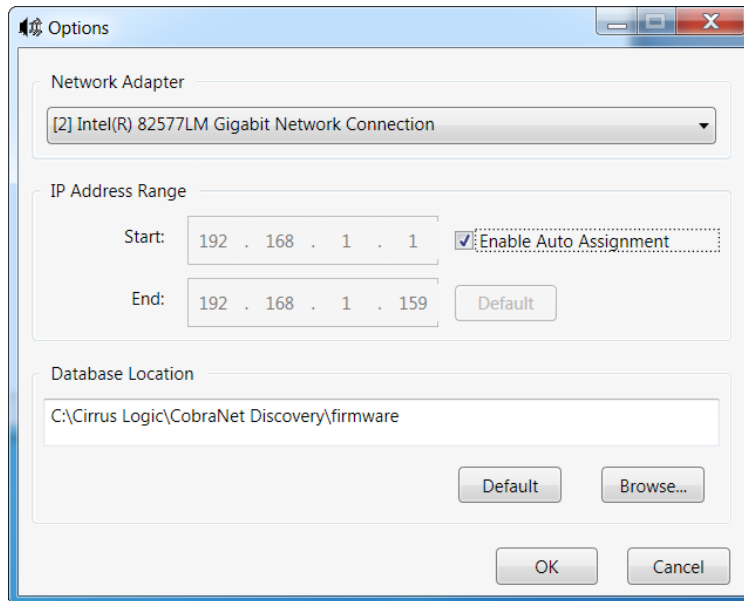

Figure 2: CobraNet Discovery Options
- a. In CobraNet Discovery, go to **Tools > Options (Figure 2)**.